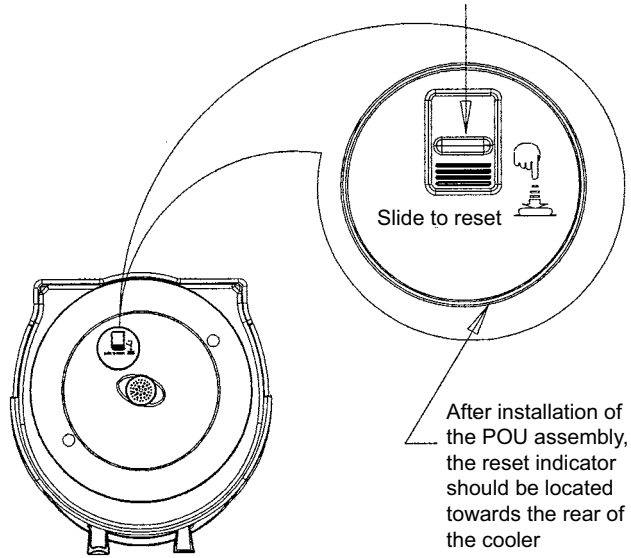

Figure 4.
8. After installation of the POU kit, the RESET indicator should be located towards the rear of the unit (Figure 4).
The Check Indicator on the top of the POU kit (Figure 4) will normally be set to GREEN. It will change to RED indicating a lower valve failure or leak from tubing or fittings in the reservoir and lock.